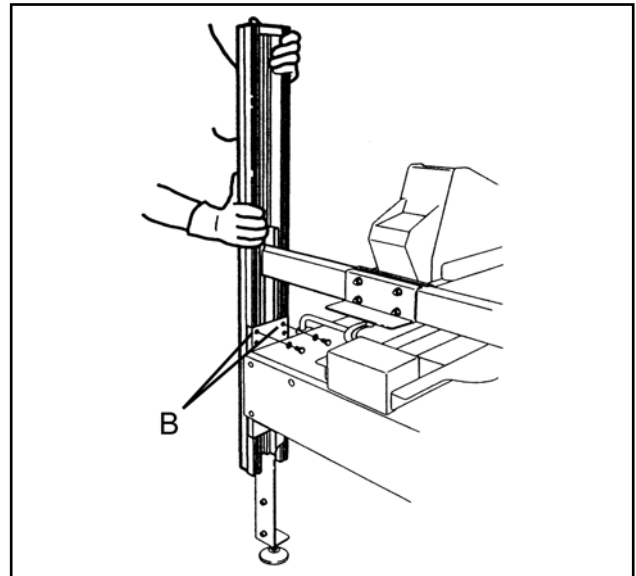

Figure 2-9 – Remove the Two Screws
5. Hold the opposite side column (without the handle) and remove the two screws (**B**), as shown in Fig. 2-9.